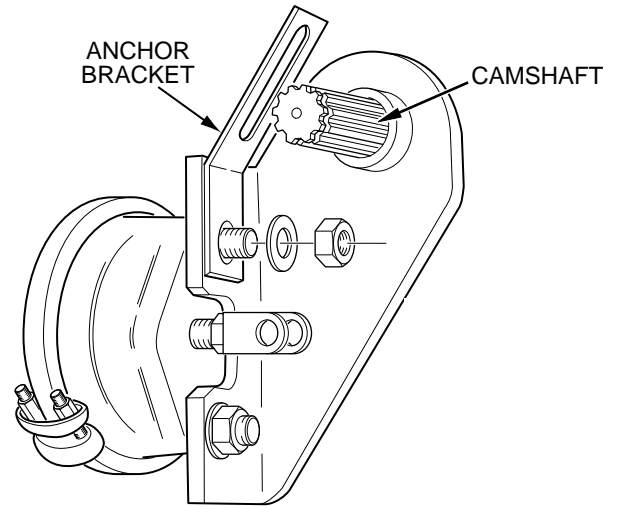

Figure 14 Install the Anchor Bracket
2. Install anchor bracket loosely as shown. Do not tighten anchor bracket fasteners. (See Figure 14.)